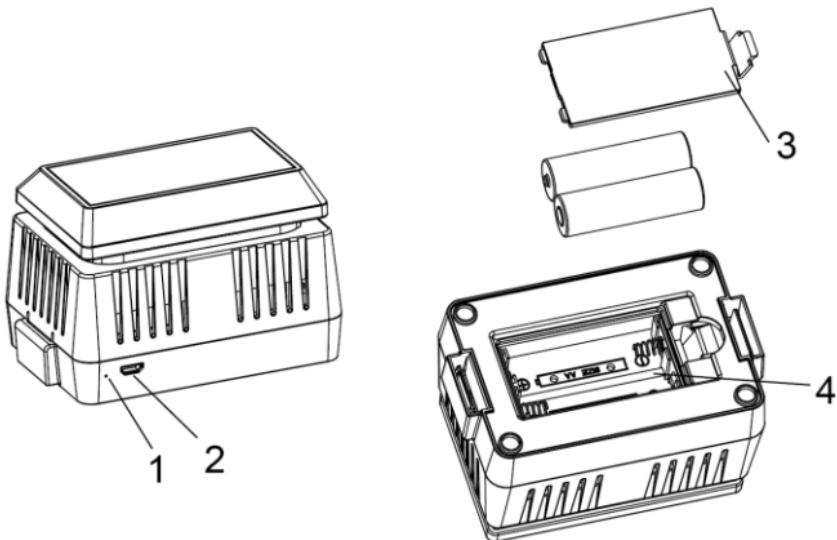

Figure 1
1. Remove the battery door on the base of the air quality sensor as shown in Figure1